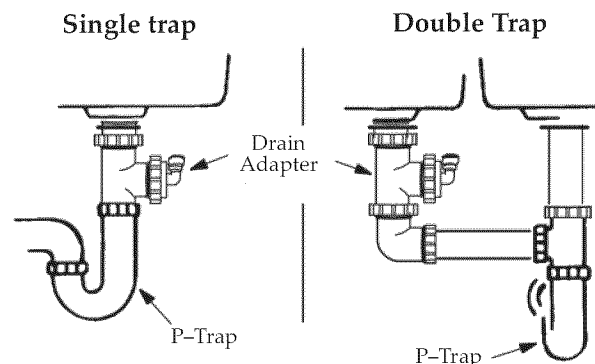

Figure 6
See Figures 6, 7 & 8. This is used in under the sink installations. The drain adapter kit is installed onto your sink drain pipe above the P-trap. See Figure 6.
In an under the sink installation, you normally use the P-trap drain adapter. A drain adapter kit is included in your package. Review the drain adapter kit parts in Figure 8. The drain adapter is always installed in the sink drain pipe, above or ahead of the P-trap. See Figures 6 & 8. Be sure to comply with your local plumbing codes. The drain adapter fits 1-1/2" sink drain pipes. Other drain pipe fittings, purchased locally, may be needed in addition to the adapter.
1. Slowly disassemble the sink drain pipe between the sink P-trap and the sink tailpiece. See Figures 6 & 8.
6. Assemble the P-trap to the drain adapter, and other drain pipe fittings as required to complete the drain run. See Figure 6.